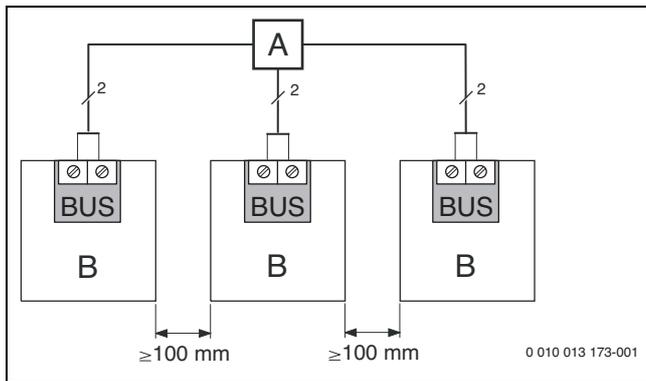

Fig. 33 Connecting the electrical distribution box
- ▶ Insert the BUS participant [B] via the electrical distribution box [A] into the star (→ Fig. 33), follow the instructions for the operating unit and the other modules).